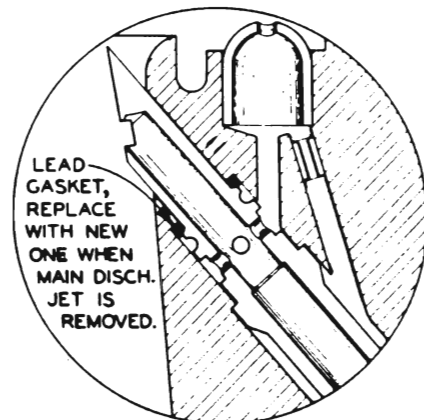

Fig. 6-65. Main Jet Gasket
When servicing the carburetor, and main discharge jets are removed, lead gasket (12) must be replaced by a new one to assure a good seal when main jet is reassembled. See Fig. 6-65.